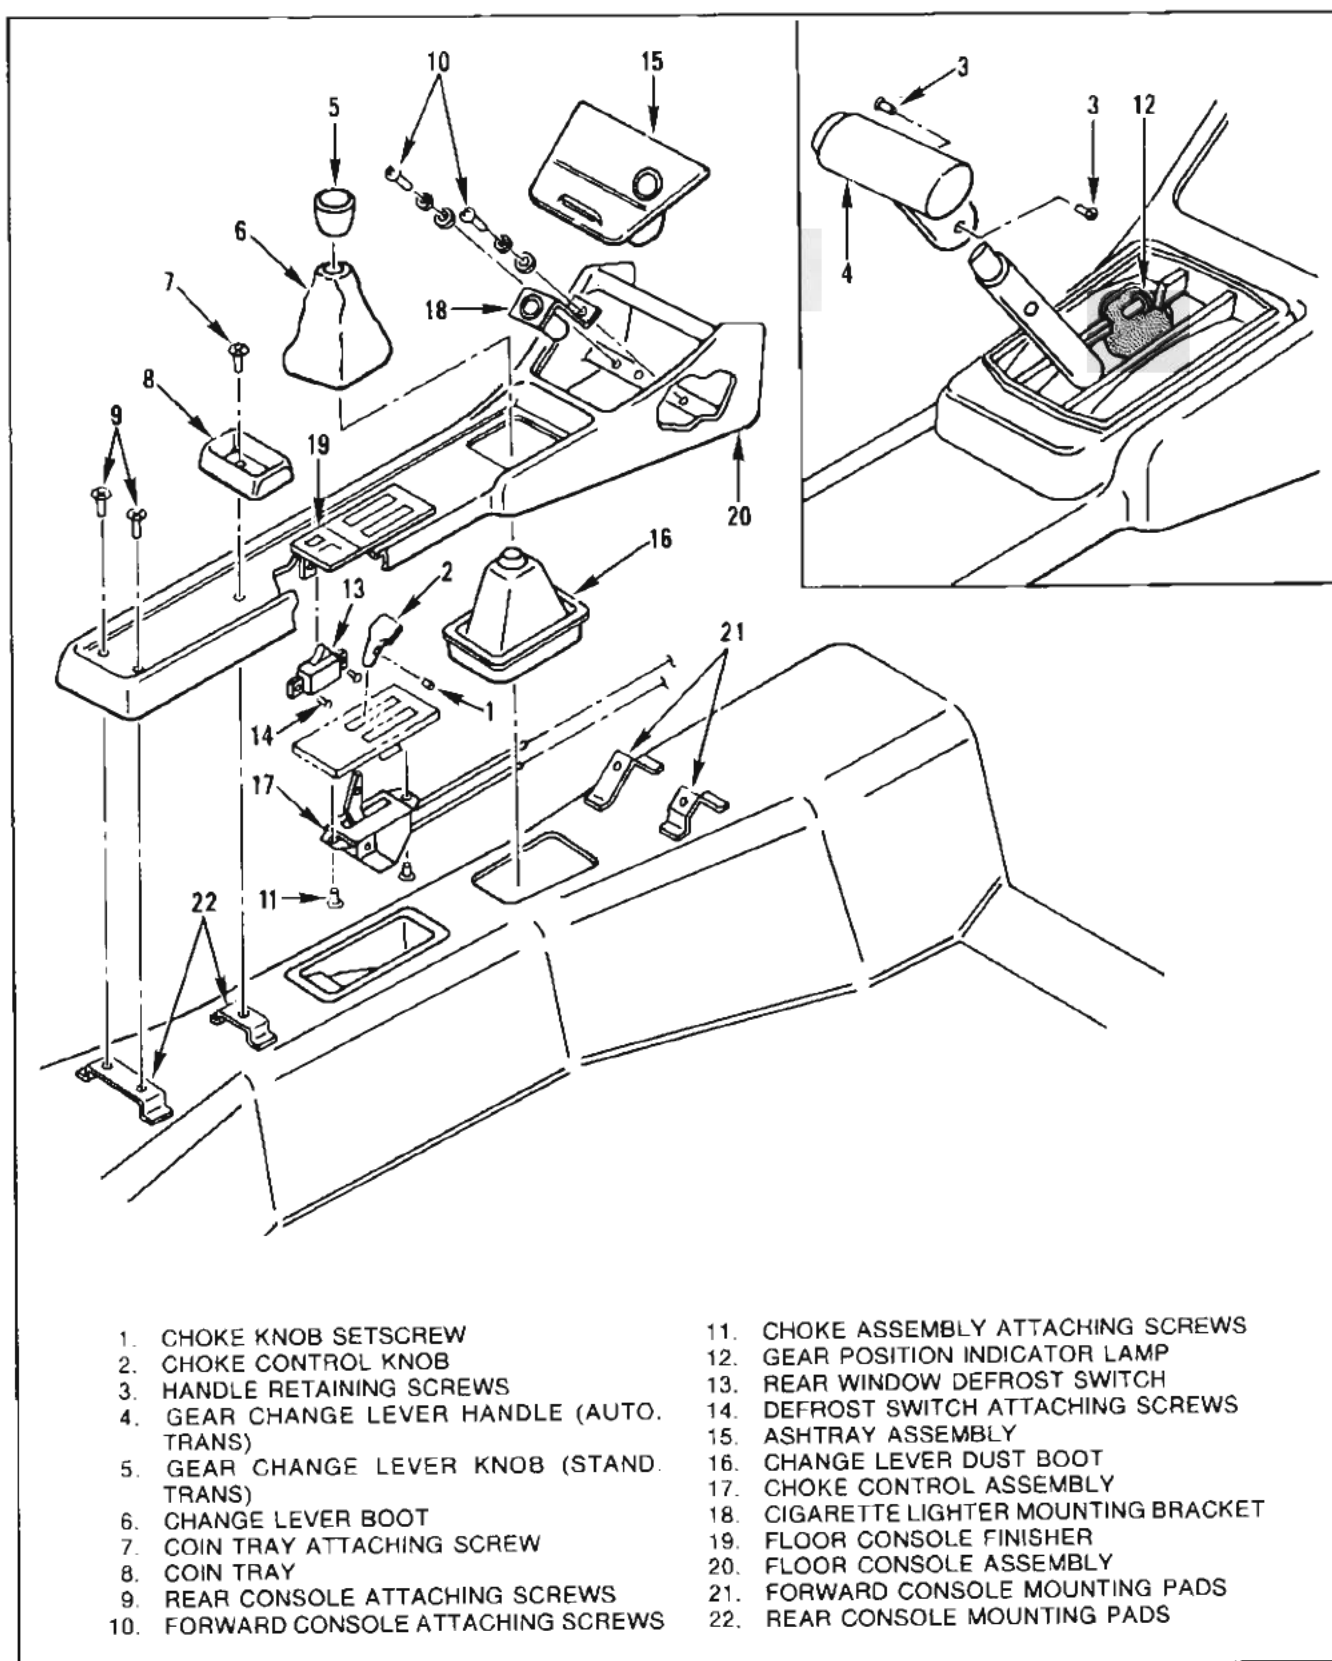

Figure II-1. Floor Console and Attaching Hardware (Exploded View)
The floor console is a fiberglass shell which houses the gear change selector, choke lever, fuse box, ashtray and cigarette lighter, coin tray, and rear window defroster switch. With the exception of a driving range indicator lamp (automatic transmission models only), electrical connections are identical as is the procedure for removal and replace. (See Figure II-1.)
4. As shown in Figure II-1, remove the floor console components and attaching hardware as follows:
7. Lift the console to gain access beneath. Remove the retaining nuts which secure the choke control mechanism to the console. (See Figure II-1, Item 11.)
2. Refer to Figure II-1 for part identification and R&R as follows: